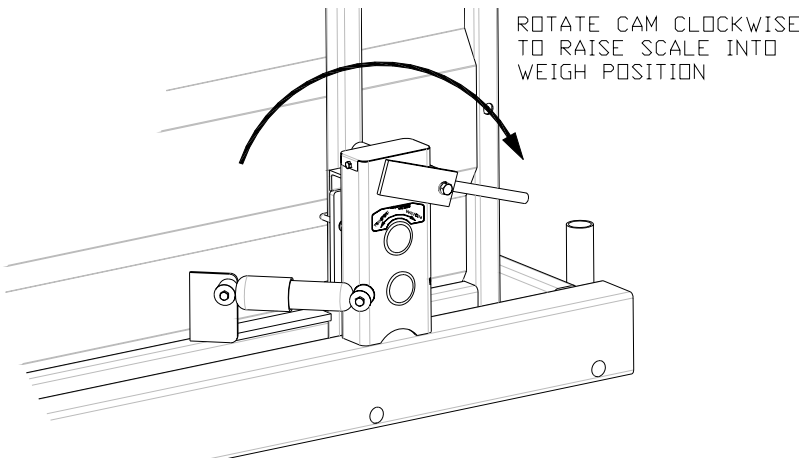

Figure 8 - Scale Lift
10. **USING BOTH HANDS**, raise the platform (rotate cam handle clockwise) to enable the scale (Figure 8).